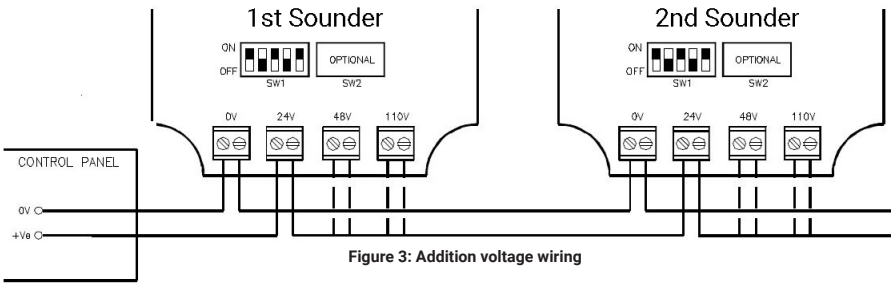

Figure 3: Addition voltage wiring
- Wiring example is shown in Figure 3. The units are designed for loop-in, loop-out connectivity allowing 2 terminals per connection.